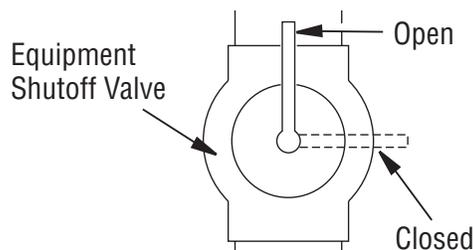

Figure 11 - Equipment Shutoff Valve
1. Close equipment shutoff valve (see Figure 11).
1. Open equipment shutoff valve (see Figure 11, page 10).
3. Close equipment shutoff valve (see Figure 11, page 10).